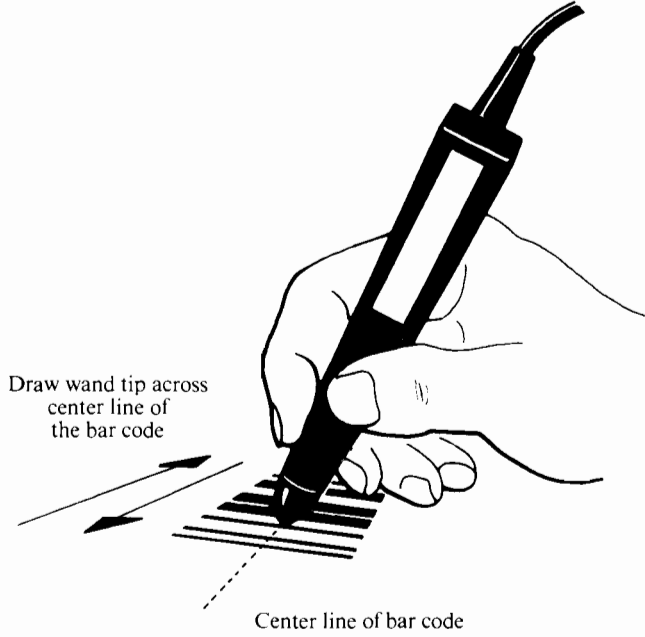

Figure 3-3. Using the Bar Code Reader (Wand)
- 1) Hold the wand as for a pencil, at an angle of approximately 15° to the bar code (see Figure 3-3).